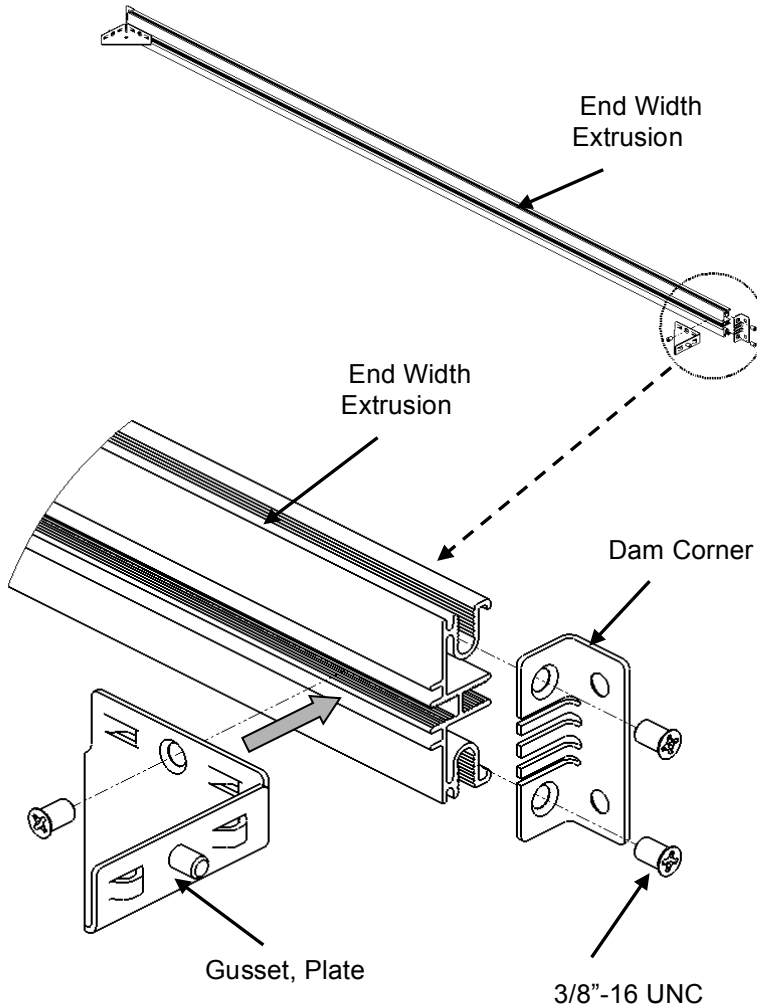

Fig. 10
11. Pre assembled the End Width Extrusion with Dam Corner and Gusset plate by using 3/8"-16UNC screw. (Fig. 10).